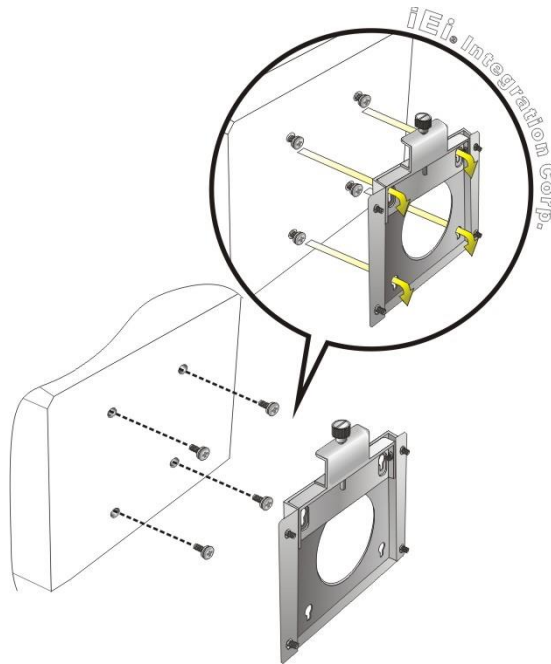

Figure 3-8: Chassis Support Screws
- Step 6:** Insert the four monitor mounting screws provided in the wall mount kit into the four screw holes on the rear panel of the panel PC and tighten until the screw shank is secured against the rear panel (**Figure 3-8**).
Step 8: Carefully insert the screws through the holes and gently pull the monitor downwards until the monitor rests securely in the slotted holes (**Figure 3-8**). Ensure that all four of the mounting screws fit snugly into their respective slotted holes. Always keep the PPC2-xxx-ADLP in landscape orientation when mounting on the wall.